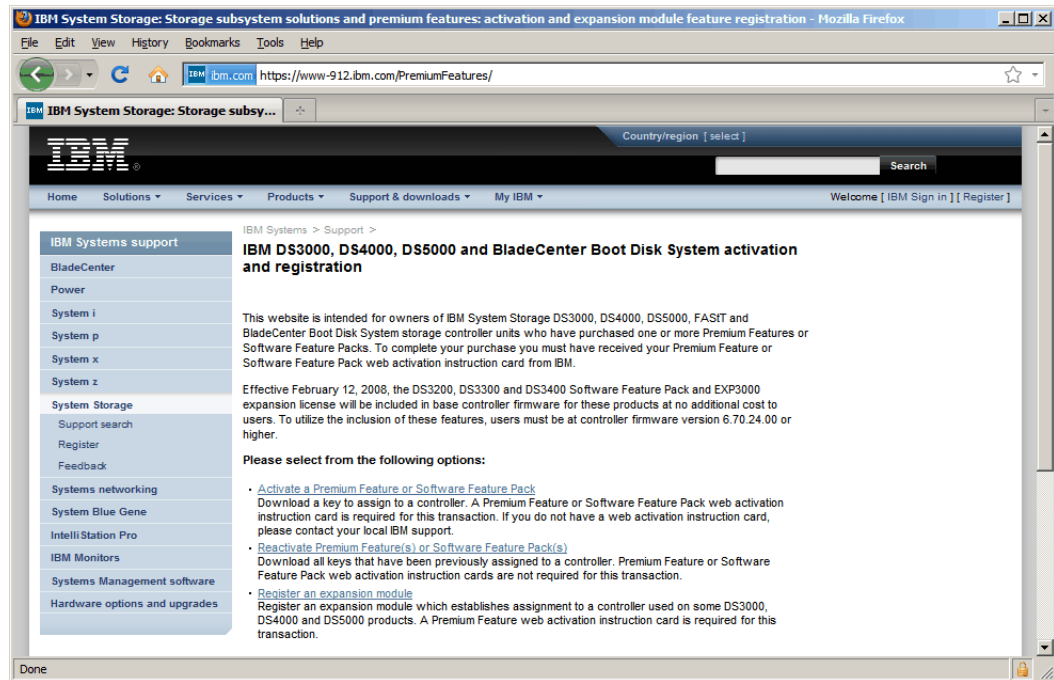

Figure 1-2 The Premium Features web site
1. With the feature enable identifier and the registration card provided with the machine for the premium feature purchased, go to the following web site (shown in Figure 1-2):